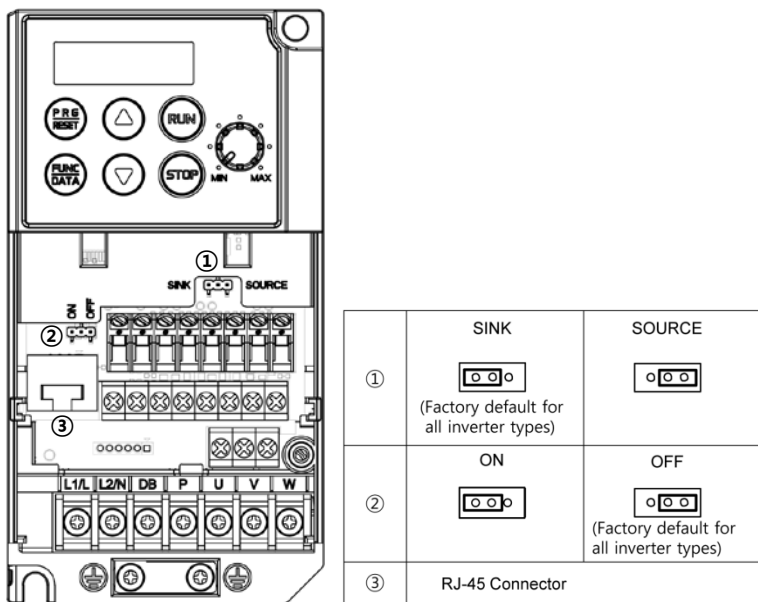

Figure 2.11 Locations of Jumper Switches and RJ-45 Connector
Switching the jumper switches (shown in Figure 2.11) allows you to customize the specifications of the digital I/O terminals and the RS-485 communication terminating resistor.
① SW10	SINK/SOURCE switch for digital input terminals <ul style="list-style-type: none">• To use digital input terminals [X1] to [X3], [FWD] and [REV] in the SINK mode, set a jumper in the sink position, to use them in the SOURCE mode, set a jumper in the source position. (See Figure 2.11.)• To switch between SINK and SOURCE modes, use a mini needle-nose pliers or the similar tool to change the mounting position of the jumper.
② SW9	Terminating resistor ON/OFF switch for RS-485 communication <ul style="list-style-type: none">• To connect an optional remote keypad, set a jumper in the OFF position (factory default).• If the inverter is connected to the RS-485 communications network as a terminating device, set a jumper in the ON position.• To switch the terminating resistor ON and OFF, use a mini needle-nose pliers or the similar tool to change the mounting position of the jumper.
Figure 2.11 shows the locations of jumper switches and the RJ-45 connector.